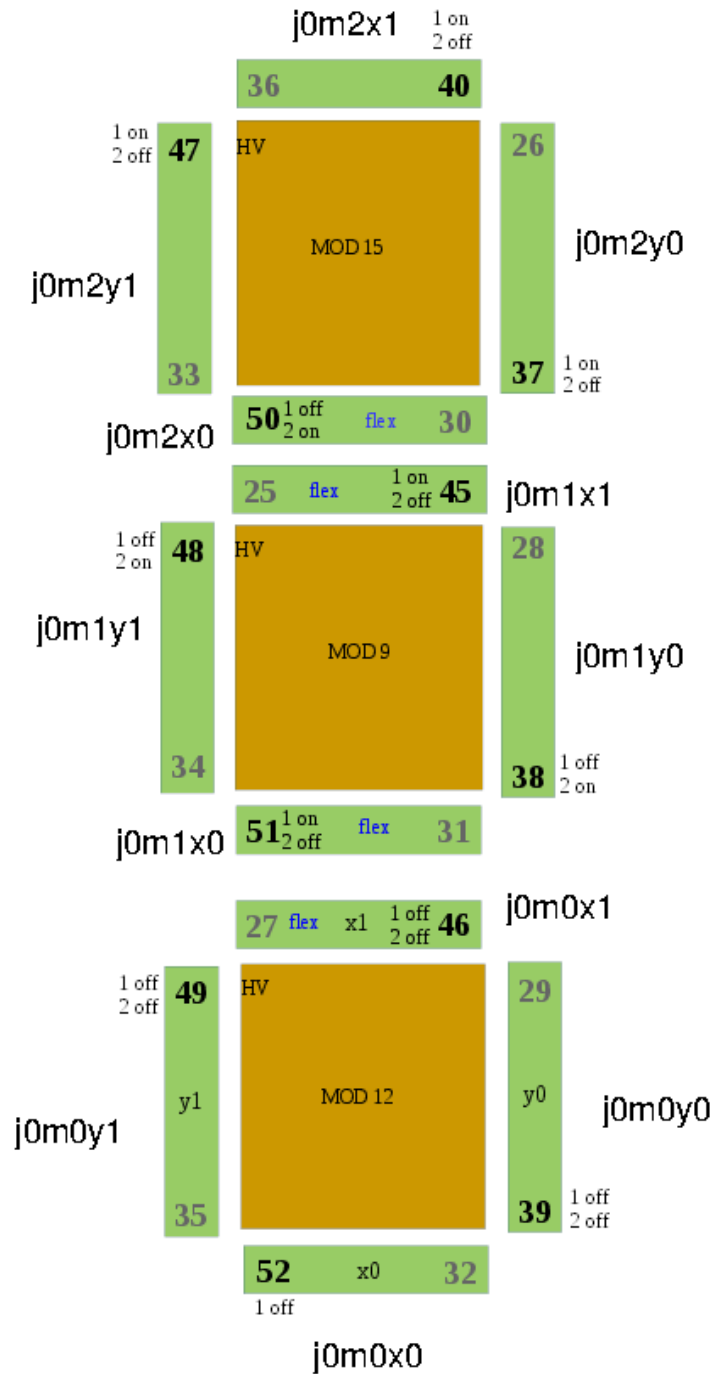

Fig 1: the J0 chamber; backplane switches settings, types, cables numbers; backplane numbering
The flex backplanes are installed between two GEM modules, with the surface perpendicular to the GEM surface, as shown in figure 1. The flex backplanes do host 4 cards.
2) Referring to fig 1: $m1y1 \rightarrow m2x0$, $m0y1 \rightarrow m1x0$, $m2y0 \rightarrow m1x1$, $m1y0 \rightarrow m0x1$; the mixture between backplanes of different modules is due to the positions of the low voltage connectors and their proximity.